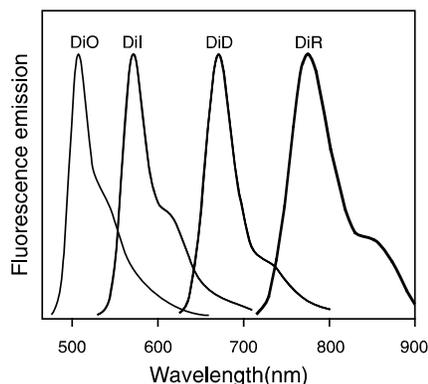

Figure 1. Normalized fluorescence emission spectra of DiO, DiI, DiD, and DiR bound to phospholipid bilayer membranes.
- DiI (D282, D3911, N22880) and DiO (D275) have fluorescence excitation and emission maxima separated by about 65 nm, facilitating two-color labeling (Figure 1).^{1,4,10} DiO
- DiD (D307, D7757) is an analog of DiI with markedly red-shifted fluorescence excitation and emission spectra (Figure 1). This characteristic is useful in avoiding autofluorescence and phototoxic effects,¹² as well as for two-color labeling.^{13,14} DiR (D12731) has excitation and emission maxima in the near infrared region, where many tissues are optically transparent.